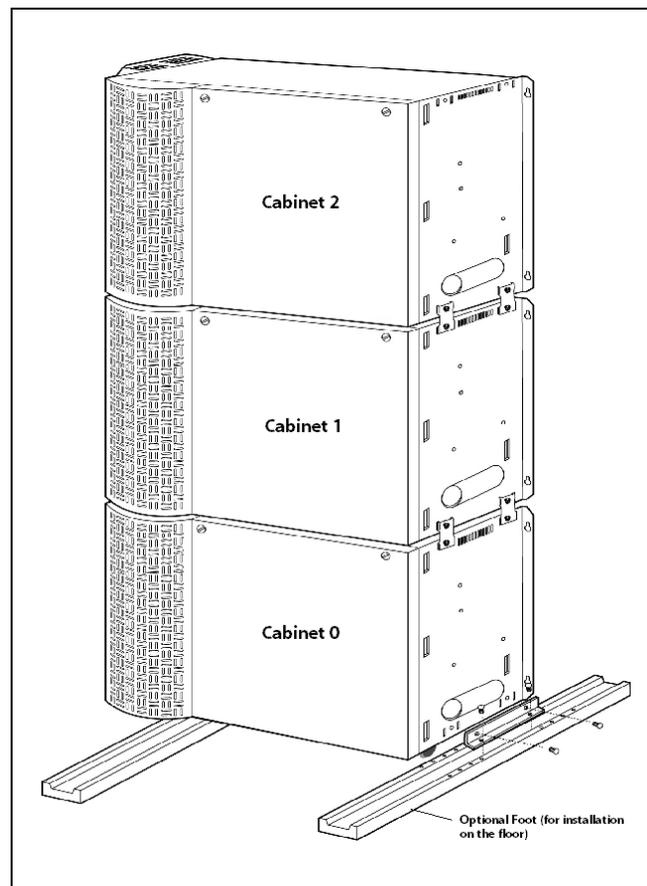

Figure 3-6: Mounting Rack
2. To install the second or third Cabinets, use the screws provided to connect them as in Figure 3-6.